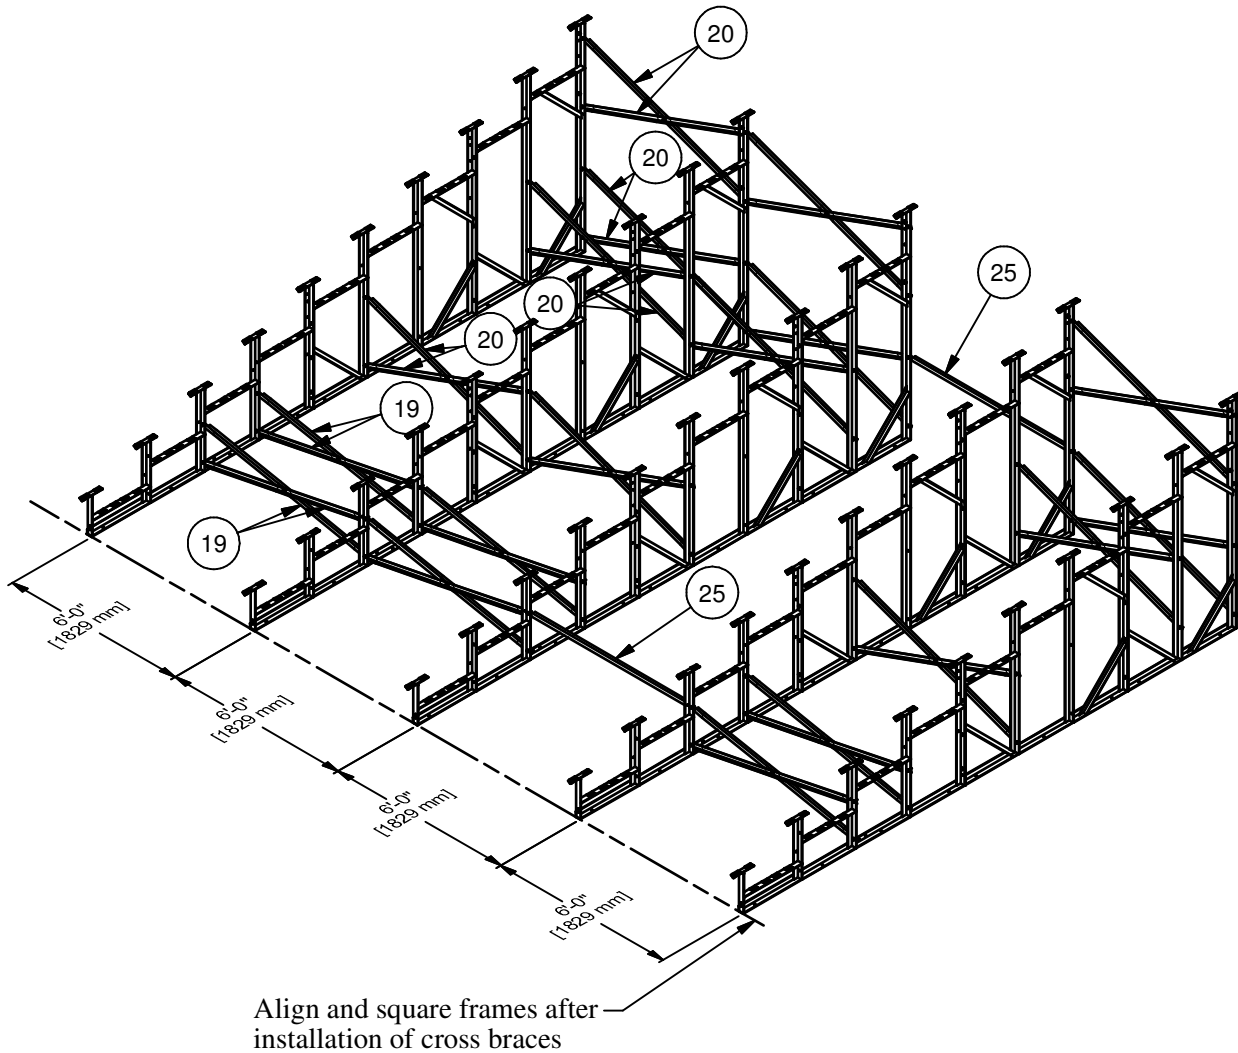
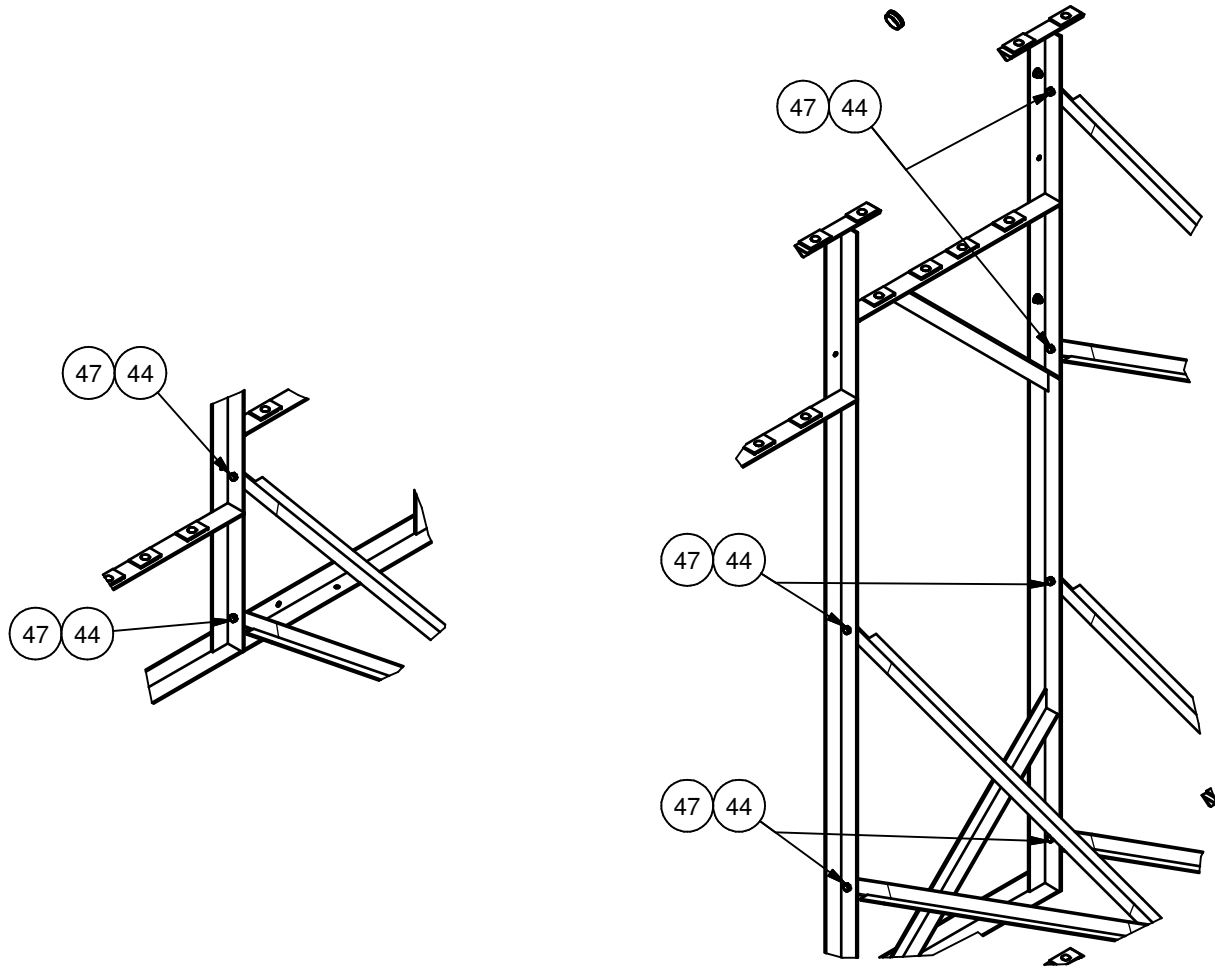

Figure 3
Figure 4
3. Lay out the Frame weldments approximately 6' apart. Refer to figure 3 for proper frame spacing. Install the brace sub-assemblies from step 2 using the 3/8" x 1" hex bolts and 3/8" whizlock nuts as shown in Figure 4. Cross braces are connected to the frames at verticals 3,4,6,9,and 10. Refer to figure 3 for item number and page 2 for brace angle length. NOTE: Cross braces are located in the end bays and either bay 2 or bay 3. Straight spacer braces are located in bay 2 or bay 3 at row 3 and row 10 only. If the cross braces are going to be located in bay 2, the straight braces must be located in bay 3. However, if the cross braces are going to be located in bay 3, the straight braces must be located in bay 2. After all braces are installed, square the frame and make sure the front of the frame is in line.